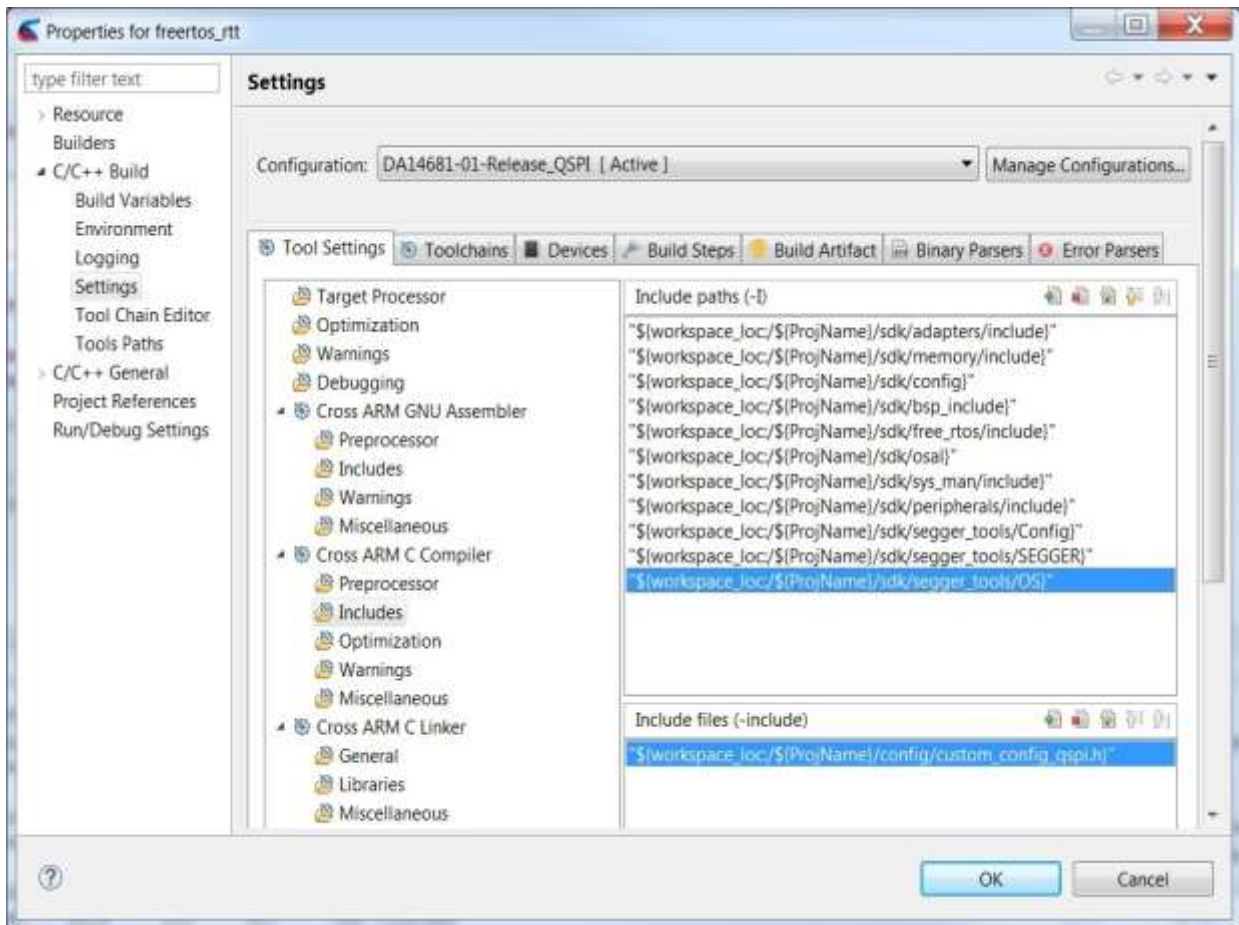

Figure 94: Include folder paths
- Right click project's name and go to **Properties > C/C++ Build > Settings > Tool Settings > Cross ARM C Compiler > Includes > Include Paths** (see Figure 94), add the following Workspace folders and click apply: